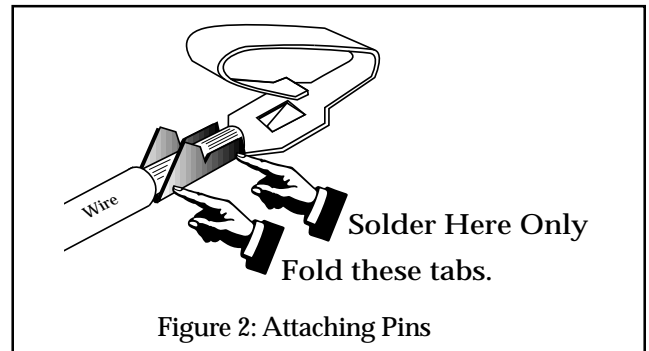

Figure 2: Attaching Pins
- () Prepare the ends of the 7-conductor cable by separating the wires for a length of about one (1) inch (22mm). Strip about 1/8" (3mm) of insulation from the wire end. Twist the wires strands together and lightly tin them with solder. Do this for all fourteen (14) wire ends.
- () Attach a cable connector pin to each wire end. Place the wire end in the pin and carefully fold the tabs over on the wire. Solder it (use solder very sparingly!). After it cools, fold the longer tabs over the wire insulation. Do this for all fourteen (14) wire ends. See Figure 2 below for clarification of this step.